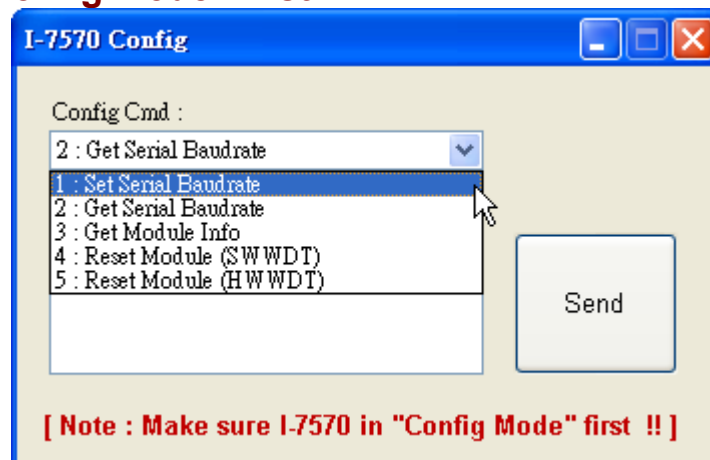

Figure 4-18: “For I-7570” Option - Configuration Screen
**2. “For I-7570” Option : (Like Figure 4-18)**